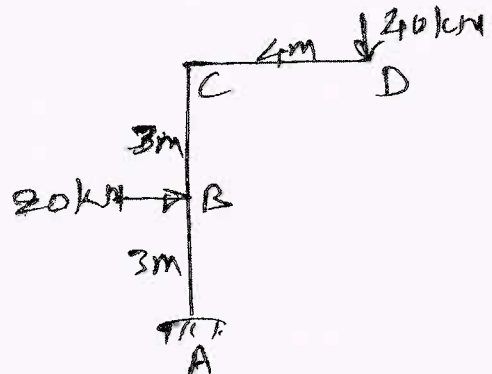

Fig Q6(a)
- 6 a. Determine the horizontal deflection at D for the frame shown in Fig Q6(a) by Castiglione's theorem. Take EI constant.  $E = 2 \times 10^5 \text{ N/mm}^2$ ,  $I = 8 \times 10^8 \text{ mm}^4$ .